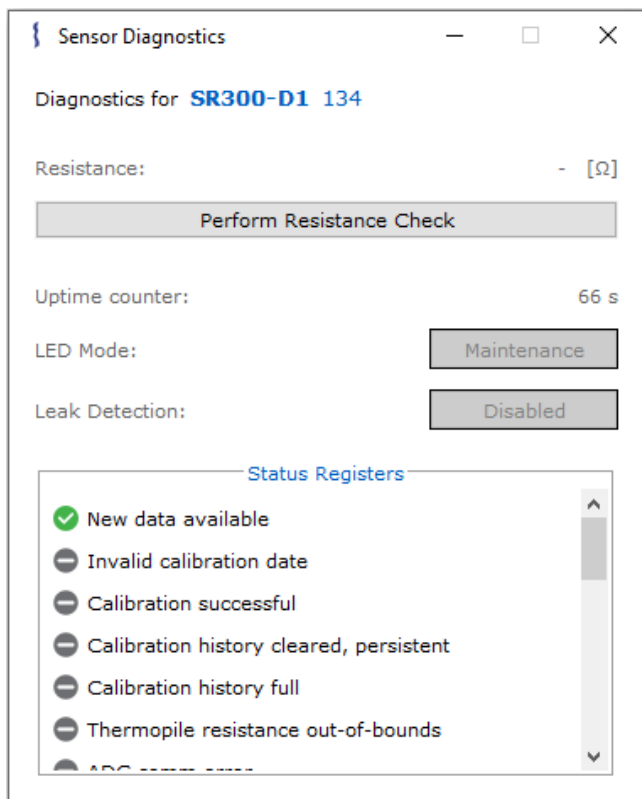

Figure 5.3.1 Sensor Diagnostics window for an SR300-D1 sensor.
Depending on the type of sensor, the sensor may have diagnostics features, such as an uptime counter, LED Mode status, Leak Detection and Status Registers (see figure 5.3.1).
- When off, a grey circle is shown, as seen in Figure 5.3.1.1;
The “Console” window (see Figure 5.3.1) can be used to:
The “**Modbus I/O**” checkbox can be checked to display the individual Modbus requests made by the Sensor Manager and the responses given by the sensor. An example of this can be seen with the “[COMPort on COM4]” messages in Figure 5.3.1 and can be useful in determining problems with the Modbus communication of a sensor.